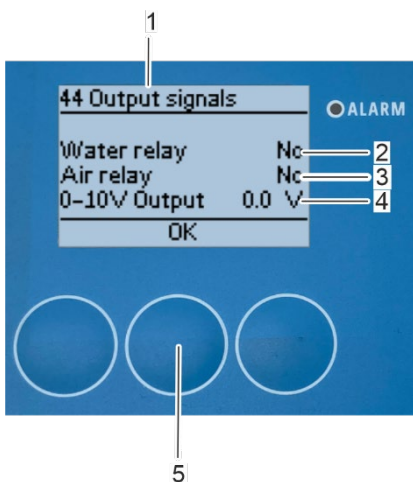
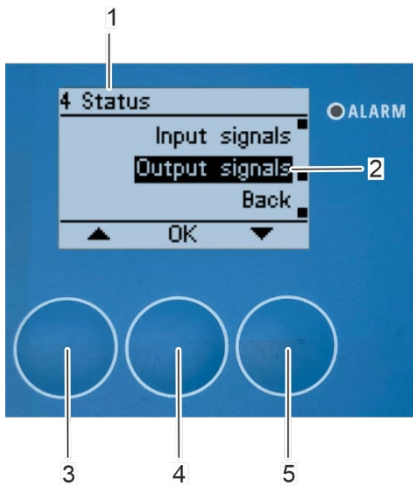

Fig. 179: Submenu „44 Output signals“
Fig. 180: Submenu "4 Status"
⇒ The "44 Output signals" submenu appears on the display (Fig. 179/1) showing the actual status of the "Water relay" (Fig. 179/2), the "Air relay" (Fig. 179/3) and the "0-10 V Output" (Fig. 179/4).
The output signals "Water relay" (Fig. 179/2) and "Air relay" (Fig. 179/3) show "Yes" if there is an input signal. The "0-10V Output" (Fig. 179/4) shows the currently applied voltage in a range from 0 to 10 V.
3. Press [OK] (Fig. 179/5) to return to the submenu "4 Status" (Fig. 180/1).
⇒ The "4 Status" submenu appears on the display (Fig. 180/1).